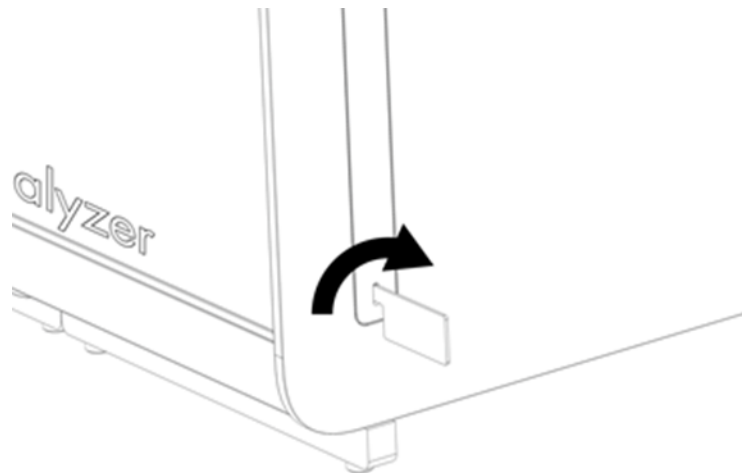

Figure 5. Removing protective covers.
2. Remove the protective covers from the side of the Analytical Module using the Protective Cover Removal Tool delivered with the QIAstat-Dx Analyzer 2.0 (Figure 5).